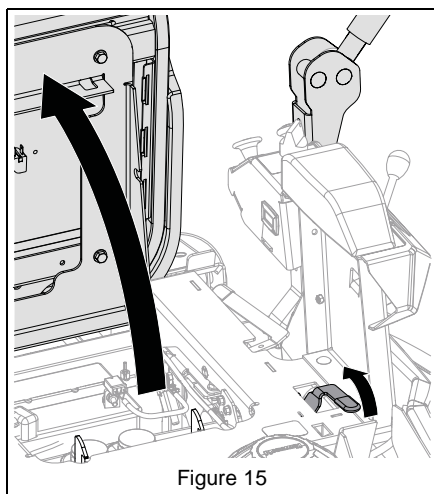

Figure 15
6. Pull seat latch and rotate seat forward. See Figure 15.